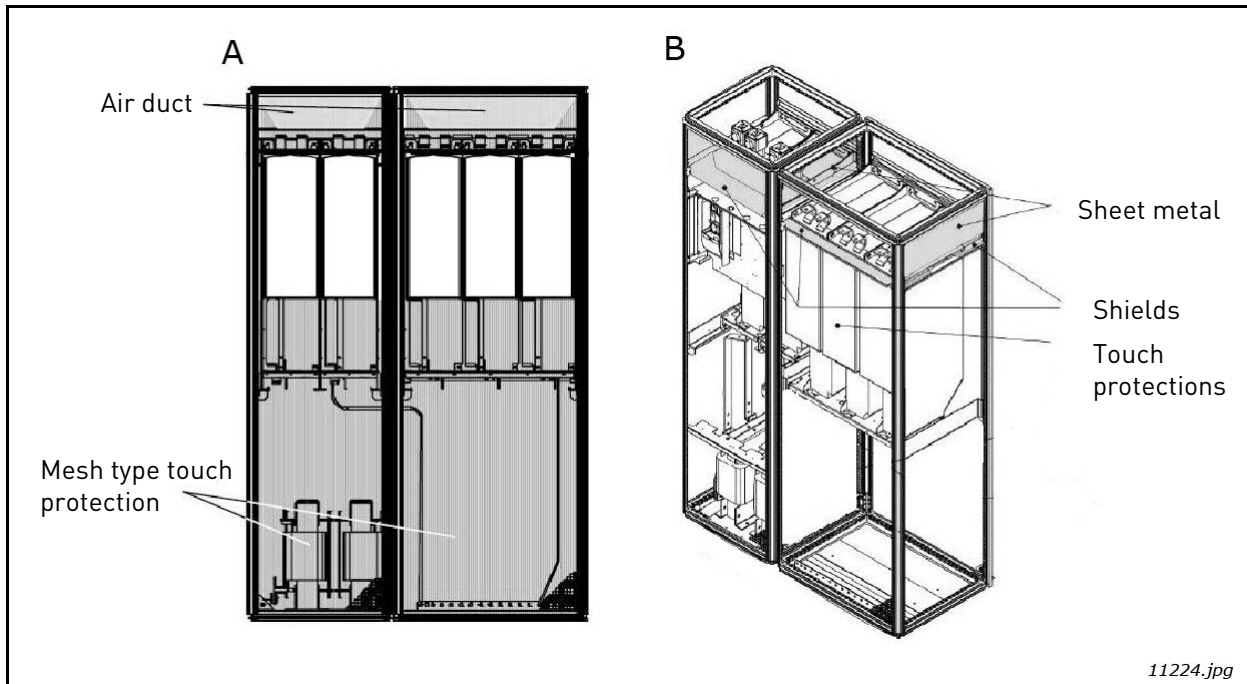

Figure 37. Cabinet cooling airflow guides
- A. Install a closed air duct from the power unit to the outlet on top of the enclosure (A in Figure 37).
- B. Install shields in the gaps between the power unit and the cabinet walls (B in Figure 37). Place the shields above the air outlet gaps at the sides of the module.